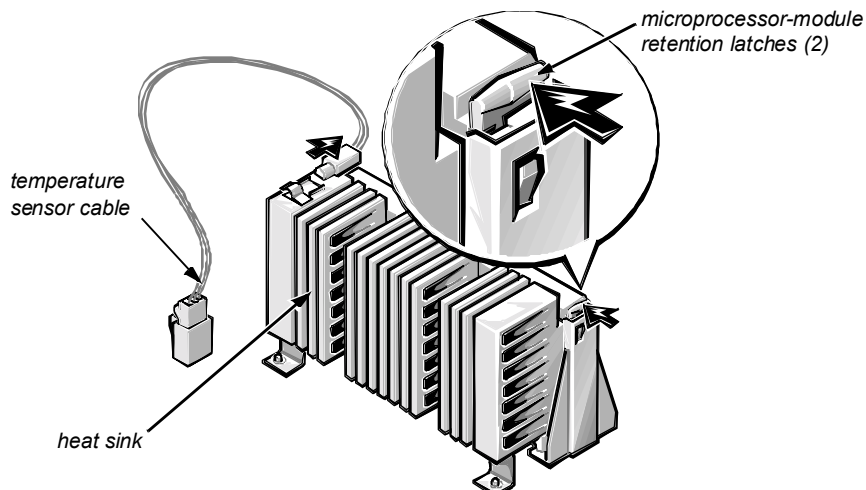

Figure 4. Removing a Microprocessor Module From a Retention Bracket
- d. Press inward on the microprocessor-module retention latches until they snap into a retracted position (see Figure 4).